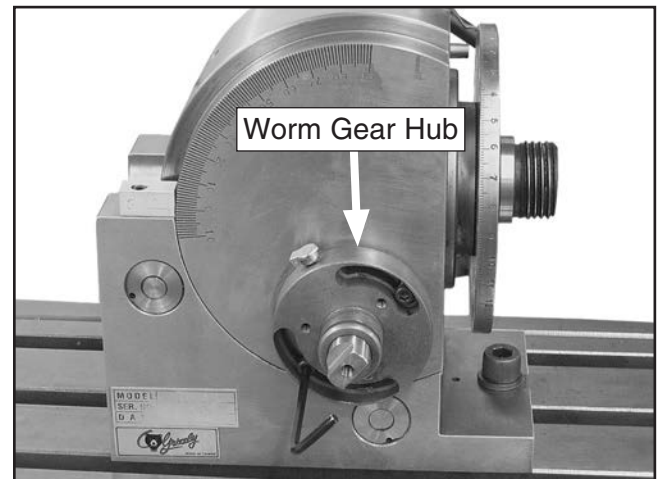

Figure 25. Disengaging worm gear and wheel.
2. Loosen the two cap screws that secure the worm gear hub, rotate it counterclockwise until you can turn the spindle by hand, then re-tighten the cap screws (see **Figure 25**).